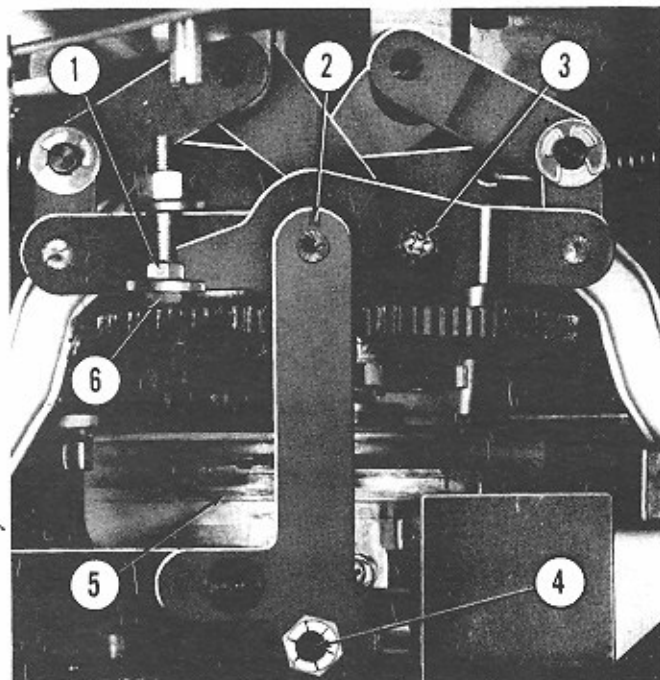
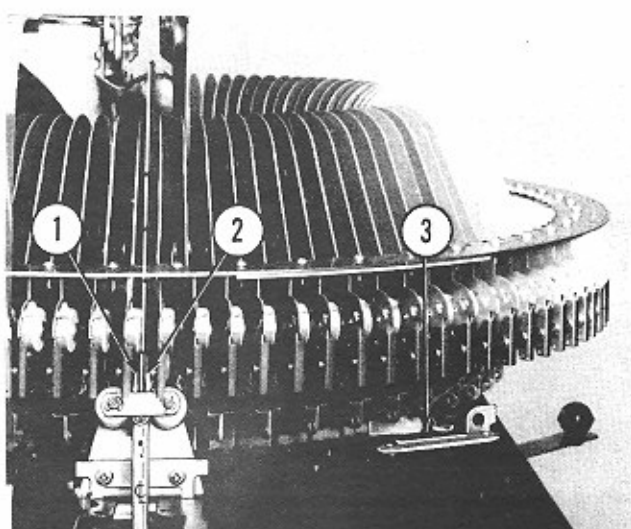

Fig. 71. RECORD LIFT ARM, RETRACTED ADJUSTMENT
Fig. 72. CENTER LINE FOR BACK STOP PAWL ADJUSTMENT
p. Record Lift Arms, Retracted Adjustment. (Fig. 71)
When the main cam of the record changer is in its "at rest" position, the cam roller of the "link and lever assembly" (Item 2, Fig. 71) will be at its highest position on the cam track and the record lift arms will be held in their lowered position. In this position, the top of the record lift arm guide tips (See Items 1 and 2, Fig. 72) should clear the under side of the record holders by approximately $1/4"$. The record lift arms should bottom against their stop brackets without tension against the brackets and without any looseness. Adjustment may be accomplished as follows:
(1) Loosen the lock nut and clamping screw (Items 1 and 3, Fig. 71).
(2) Turn the hex head adjusting screw into the stop nut to lower the lift arms or back it out to permit them to raise, thereby obtaining the requirement as stated above. If necessary, the lower stop brackets may be adjusted slightly to meet the requirements.
(3) Tighten the lock nut and the clamping screw and re-inspect the position of the arms after the mechanism has been operated.
q. Back Stop Pawl Adjustments. (Figs. 72, and 73)
The two back stop pawls are located on top of the chassis mounting plate to the right and left of the center as shown in Item 3, Fig. 72. Each of these pawls will be adjusted independent of the other. However, the adjustment procedure will be the same for both of the pawls. Before proceeding with adjustment of the back stop pawls, the record changer should be in normal operating condition.
record compartments is in accurate alignment with the left hand record lift arm as shown in Fig. 72.